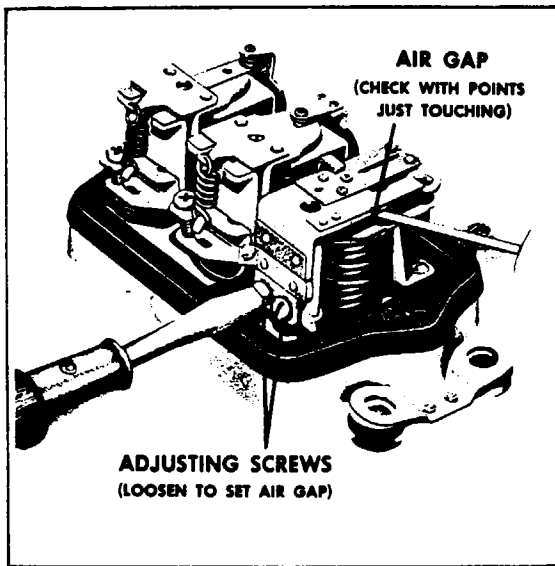

Figure 11-12. Cutout Relay Air Gap Check and Adjustment
a. Air Gap: Place fingers on armature directly above core and move armature down until points just close and then measure air gap between armature and center of core. (Refer to Figure 11-12.) On multiple contact point relays, make sure that all points close simultaneously. If they do not, bend spring finger so they do. To adjust air gap, loosen two screws at the back of relay and raise or lower the armature as required. Tighten screws after adjustment.